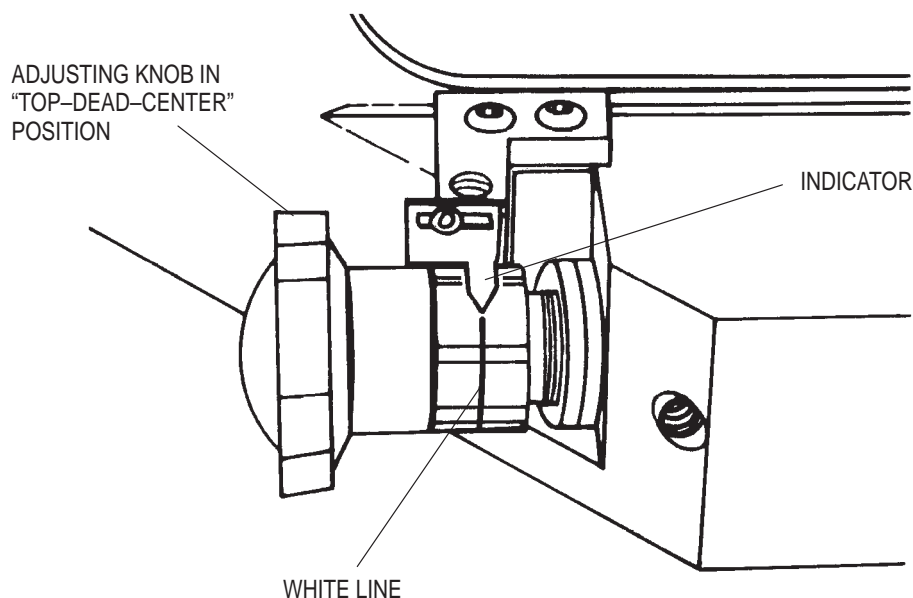

Figure 5-1. Crimp-Height Adjustment
1. Set the adjusting knob assembly in the TOP-DEAD-CENTER position. See Figure 5-1.